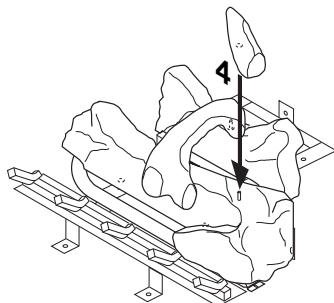

Figure 44 - Installing Log No. 4
4. Place log #4 (right log) on the pin on the right side of front log as shown in Figure 44.